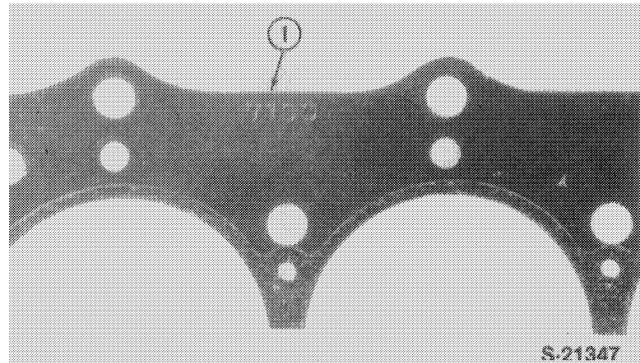

FIGURE 1-46
**NOTE:** The last four digits of the part number are stamped on the top surface of the gasket as shown, Figures 1-46 and 1-47.